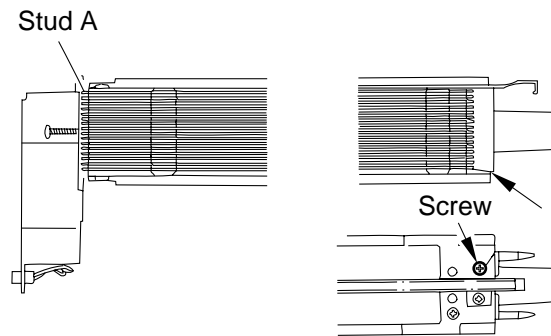

Figure 10-218
- 6) Hook the loop on stud A shown in Figure 10-218.